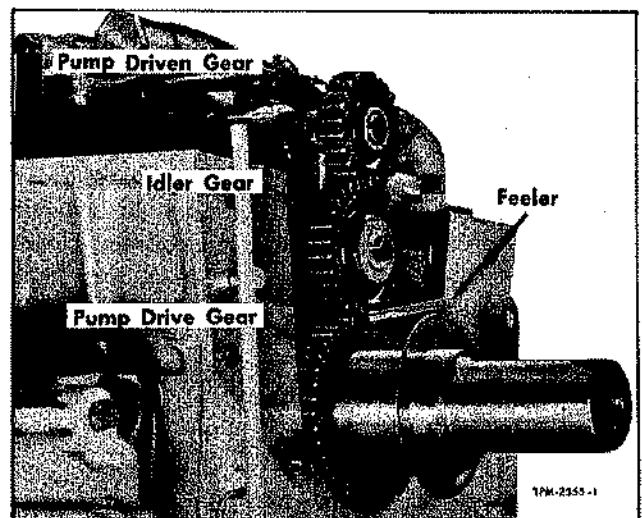

Figure 17—Checking Clearance Between Oil Pump Drive Gears
3. Check clearance between gears using feeler gauge (fig. 17). Refer to **SPECIFICATIONS** section of this manual for backlash dimension.